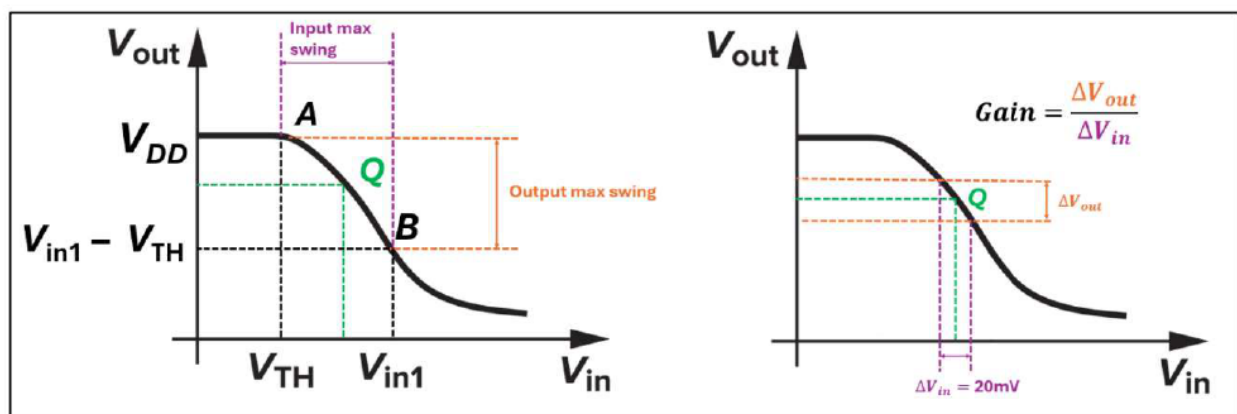

Figure 12. Method calculating Gain, Input max-swing and Output max-swing
- Plot IN-OUT characteristic curve using DC analysis. **Calculate Gain, Output max swing (Headroom) and Input max swing** as shown in **Figure 12**.